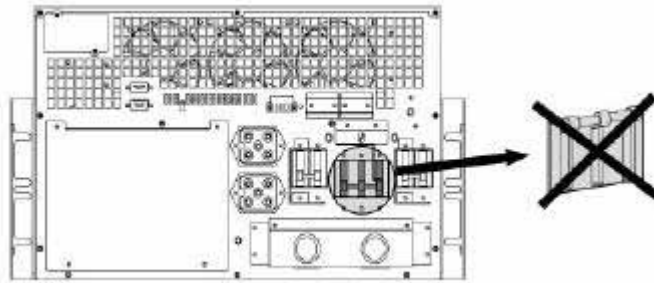

FIG 47 – 10KVA BYPASS CIRCUIT BREAKER
3. Ensure that the bypass circuit breaker on the UPS is turned to the "UPS" position (FIG 47), or that the protection bar is still mounted.